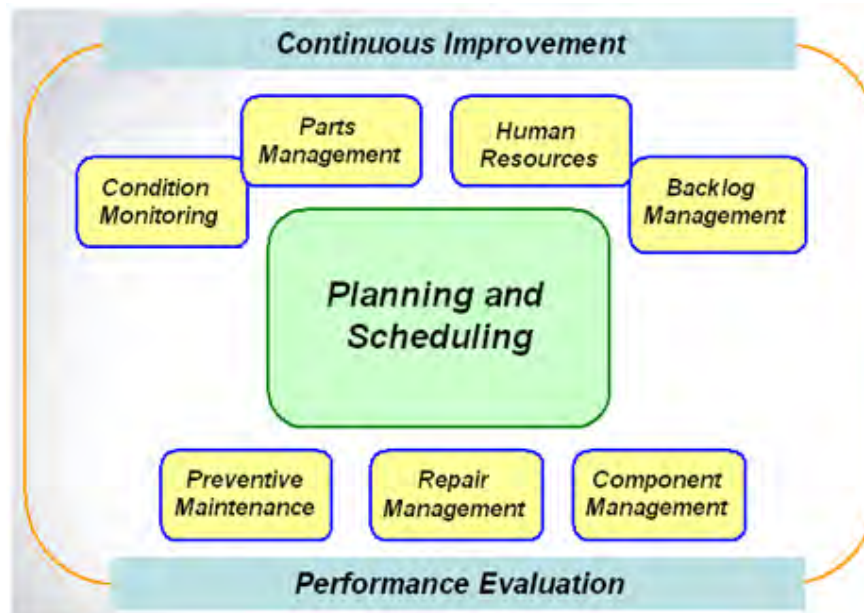

Fig. 3
production plan. The responsibility is quite extensive. Therefore, in support of the maintenance strategy and plan, the implementation of multiple other process and organizations will be required. These processes will provide both the inputs and execute the outputs of Planning and Scheduling. For example, the Condition Monitoring (CM) groups' findings will generate the input that generates/adjusts the short, medium, and long-term maintenance plans. At the same time, P&S will define (output) the activities to be executed by the CM group. In other words, the P&S group defines the CM activities that feed directly back into the P&S information input - creating a closed process loop. The same relationship exists for the Preventive Maintenance, Repair Management, Backlog Management, and Parts groups. The following graphic illustrates that Planning and Scheduling is truly the brain of the operation sitting at the center of the supporting disciplines, both receiving information and defining guidelines and activities for each. See Figure 3.